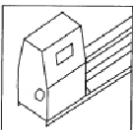

Figure 1
2. Unscrew the hexagon bolts with switch (see Fig. 1)